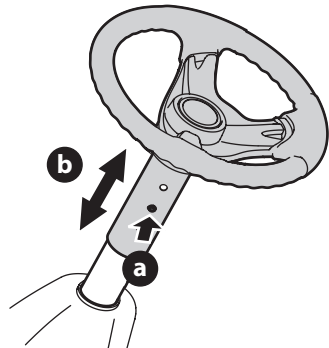

Figure 5
2. Push the button (a) on the steering column and raise or lower the steering wheel (b) to the desired position (Figure 5).
NOTE: Once the desired position is achieved, lift up and down on the steering wheel to make sure it locks into place and the button (a) on the steering column releases into a locked position. Do not operate the riding mower unless the steering column is in a locked position (Figure 5).